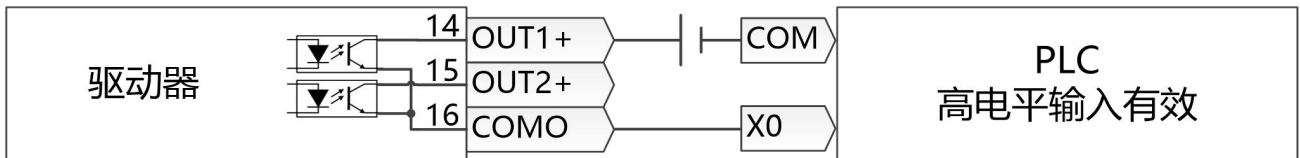

Figure3-4 PNP input wiring
- For digital output, Figure 3-3 only shows NPN connection, and Figure 3-4 shows PNP connection